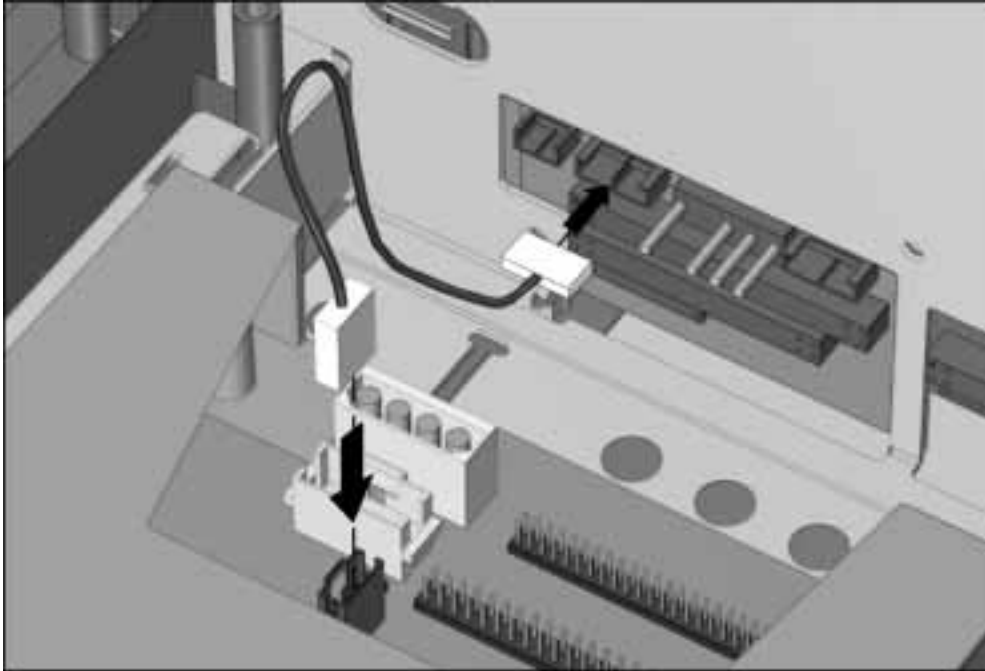

Figure 5-30. Connecting the CD-ROM/Audio Cable to the Armada 7000 Half-Height MultiBay Adapter and Backplane Assembly
13. Connect the CD-ROM/audio cable to its respective connectors on the half-height MultiBay adapter and backplane assembly (Figure 5-30).